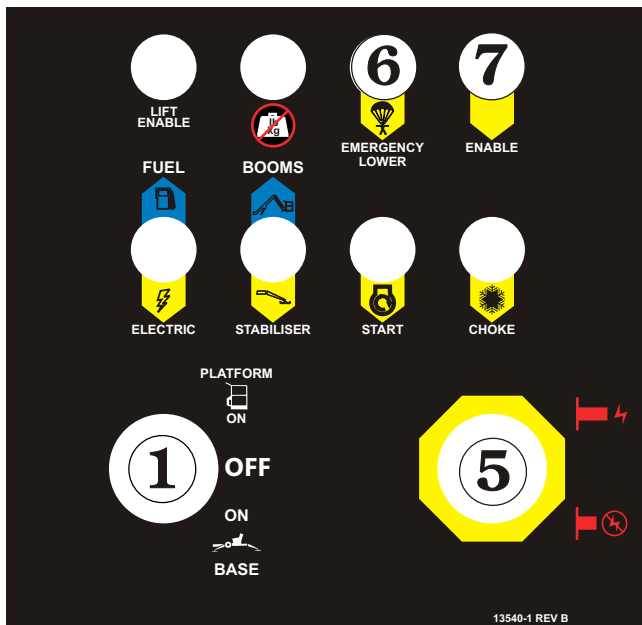

Figure 9.19 - Ground Control Switches
On the ground control box set the **Ground/Platform Selector ①** to platform (see Figure 9.19).